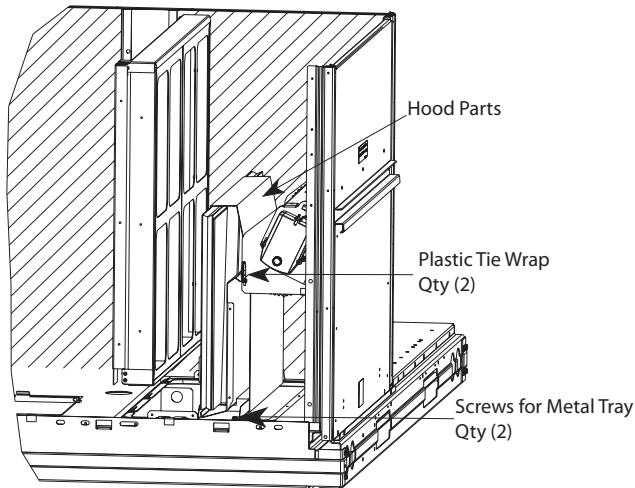

Fig. 10 - Economizer and Two-Position Damper Hood Parts Location
Locate the carton containing the outside air hood parts; see Fig. 10 (on page 14). Do not remove carton until unit has been rigged and located in final position.
3. Locate the (2) screws holding the metal tray to the basepan and remove. Locate and cut the (2) plastic tie-wraps securing the assembly to the damper. (See Fig. 10.) Be careful to not damage any wiring or cut tie-wraps securing any wiring.